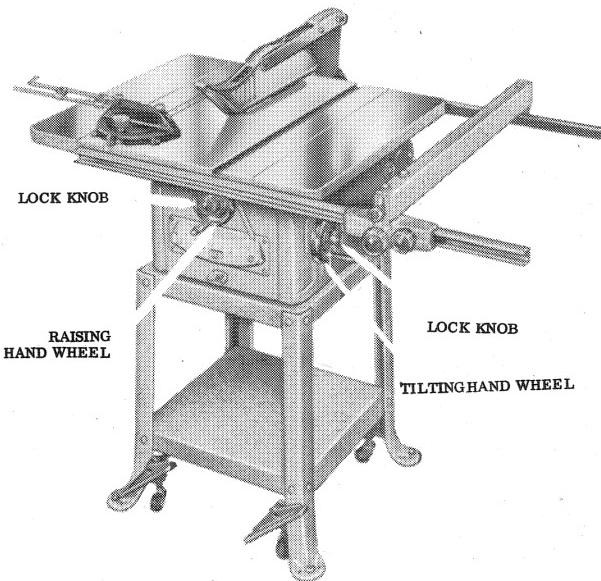

FIG. 1
2. Raise saw blade to proper height by loosening lock knob and turning Raising Handwheel. See Fig. 1 then tighten lock knob.
To raise or lower the saw blade, loosen lock knob and turn raising handwheel Fig. 1. When desired height is obtained, tighten lock knob. We suggest raising the blade above  $\frac{1}{8}$ " to  $\frac{1}{4}$ " above the top surface of the material being cut. The blade can be raised to a maximum of  $2\frac{3}{4}$ " and a positive-stop built right into the saw prevents you from raising the blade beyond this point and damaging the blade and table insert.
To tilt the saw blade, loosen lock knob and turn tilting handwheel. When desired angle is obtained, tighten lock knob. Fig. 1.